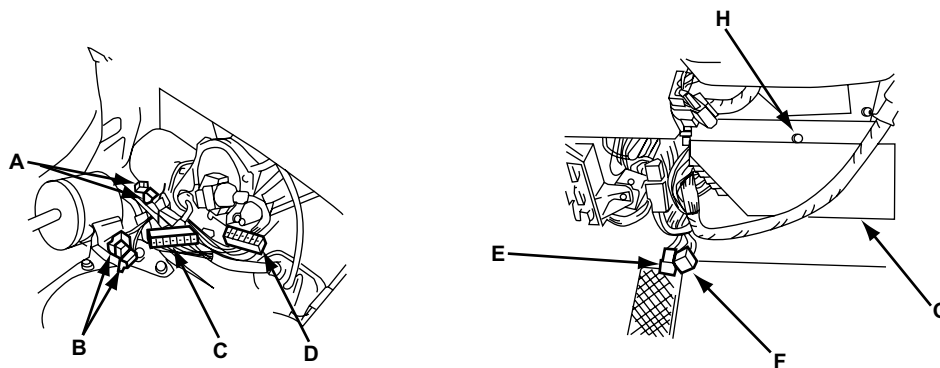

Figure 15-38 1986 SPI connectors
- “1986 SPI connectors” on page 195 (Figure 15-38)